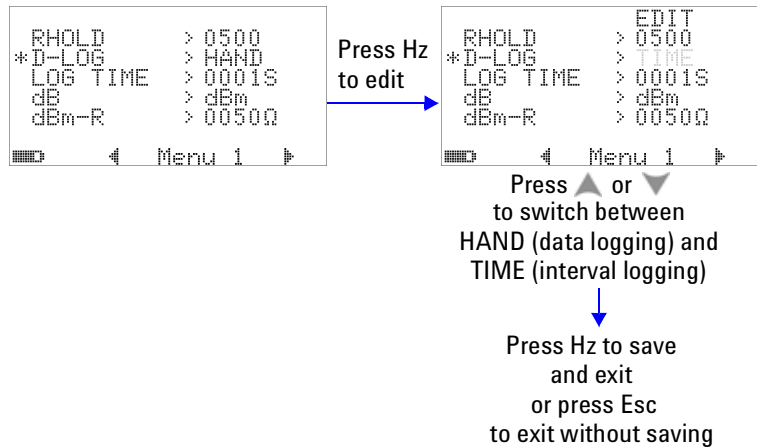

Figure 4-3 Data logging setup
- 1 Set to “HAND” to enable manual (hand) data logging, or set to “TIME” to enable interval (time) data logging. Refer to Figure 4-3 on page 90.